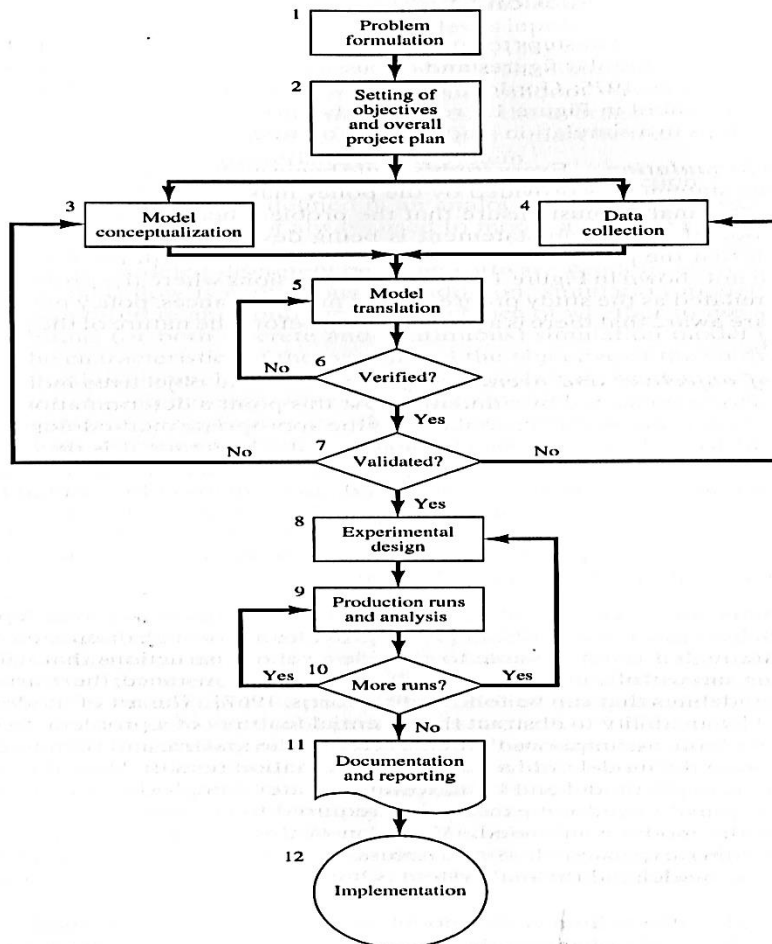

Figure 1.3. Steps in a simulation study.
- Four phases according to Figure 1.3